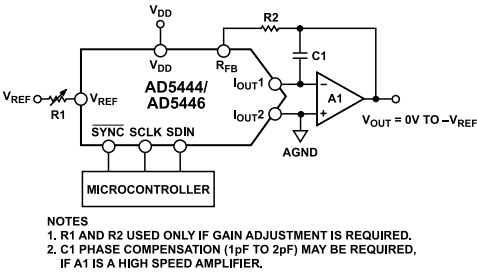
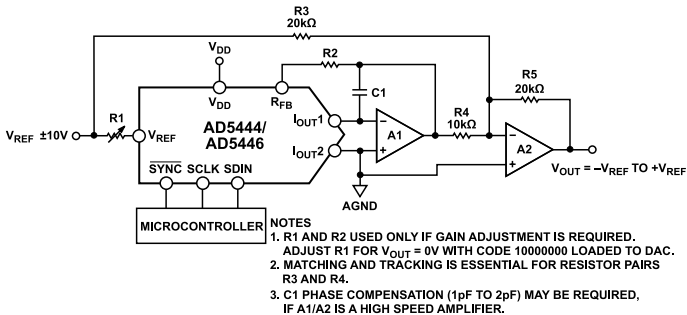

Figure 38. Unipolar Operation
Figure 39. Bipolar Operation (4-Quadrant Multiplication)
Using a single op amp, the AD5444/AD5446 can easily be configured to provide 2-quadrant multiplying operation or a unipolar output voltage swing, as shown in Figure 38.
This DAC is designed to operate with either negative or positive reference voltages. The V_{DD} power pin is used by the internal digital logic only to drive the on and off states of the DAC switches. The DAC is also designed to accommodate ac reference input signals in the range of -10 V to $+10\text{ V}$. With a fixed $+10\text{ V}$ reference, the circuit shown in Figure 38 provides a unipolar 0 V to -10 V output voltage swing. When V_{IN} is an ac signal, the circuit performs 2-quadrant multiplication.
In some applications, it may be necessary to generate a full 4-quadrant multiplying operation, or a bipolar output swing. This can easily be accomplished by using another external amplifier and some external resistors, as shown in Figure 39. In this circuit, the second amplifier (A2) provides a gain of 2. Biasing the external amplifier with an offset from the reference voltage results in a full 4-quadrant multiplying operation. The transfer function of this circuit shows that both negative and positive output voltages are created as the input data (D) is incremented from code zero ($V_{OUT} = -V_{REF}$) to midscale ($V_{OUT} = 0\text{ V}$) to full scale ($V_{OUT} = +V_{REF}$).
An optional compensation capacitor (C1) can be added in parallel with R_{FB} for stability, as shown in Figure 38 and Figure 39. Too small a value for C1 can produce ringing at the output, while too large a value can adversely affect the settling time. C1 should be found empirically, but 1 pF to 2 pF is generally adequate for the compensation.